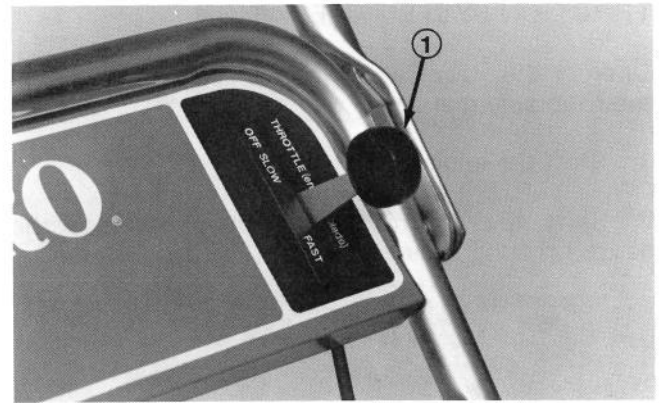

Figure 9
1. Move throttle control forward to FAST position (Fig. 9) and the ground speed control to the N (NEUTRAL) position.